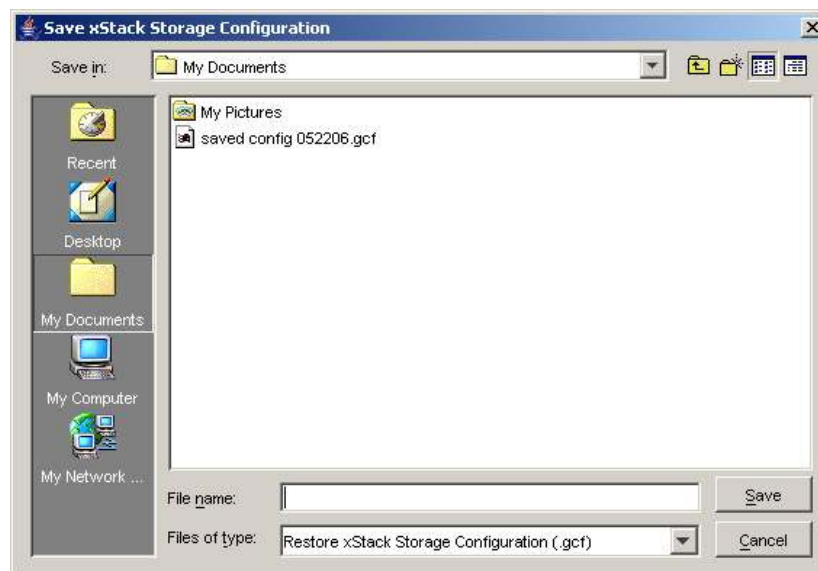

Figure 5-49 Save xStack Storage Dialog Box
1. On the **File** menu, click **Save xStack Storage Configuration**. The Save xStack Storage Configuration dialog box appears (see Figure 5-49).